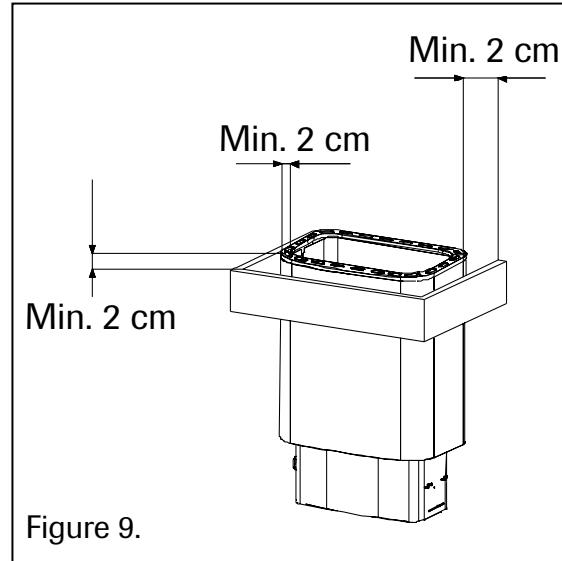

Figure 9.
- If needed, a safety rail can be built round the sauna stove (Figure 9). We recommend wood for this, in this case, the minimum distances stated for flammable constructions must absolutely be followed. Incorrect installation can cause a fire risk.